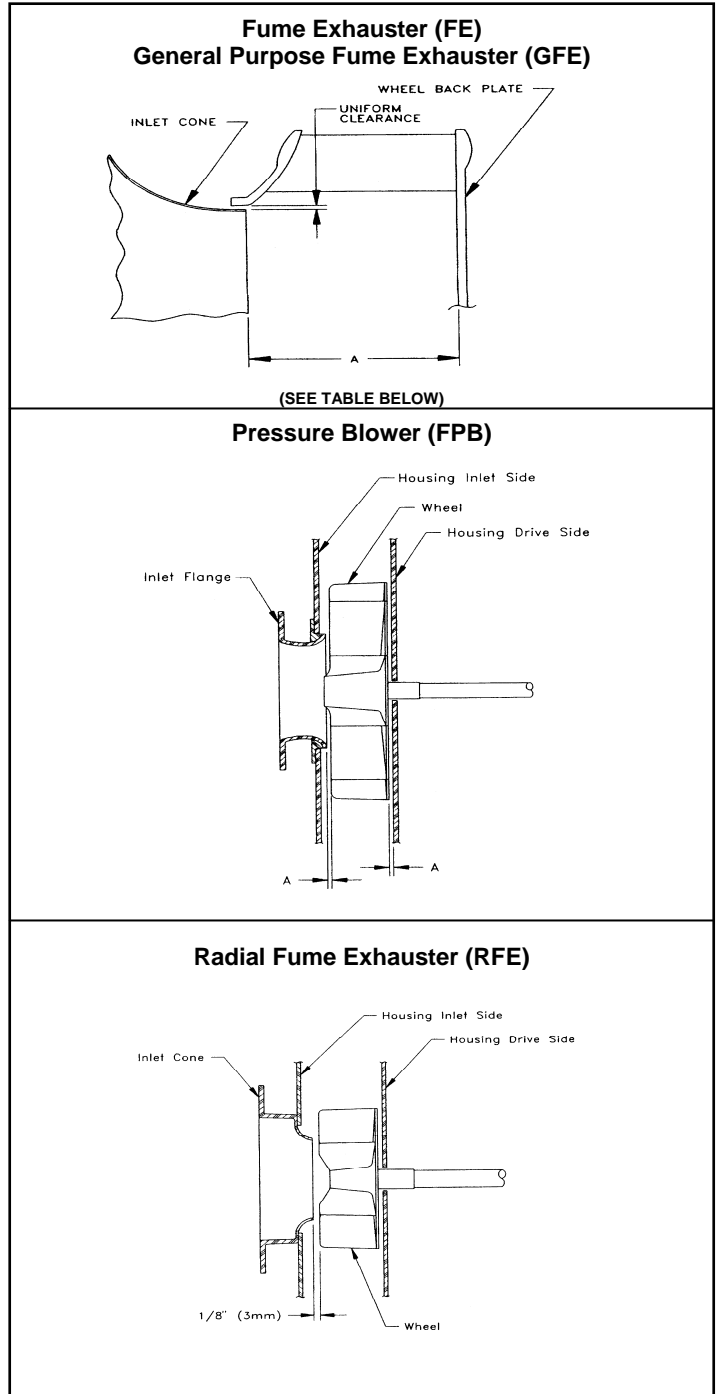

Figure 3
6. To install a new wheel/shaft assembly insert the shaft into the bearings but do not tighten setscrews. Position wheel/shaft assemblies using the proper clearances as shown in Figure 3 and Table 2. Once wheel/shaft assembly is aligned properly in housing, tighten bearing setscrews.